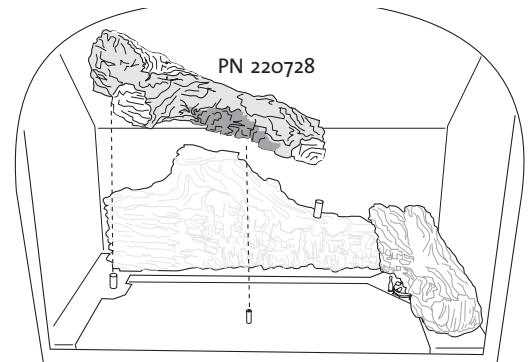

Figure 13. Install left log
3. Place the left log on the pegs as in fig. 13.